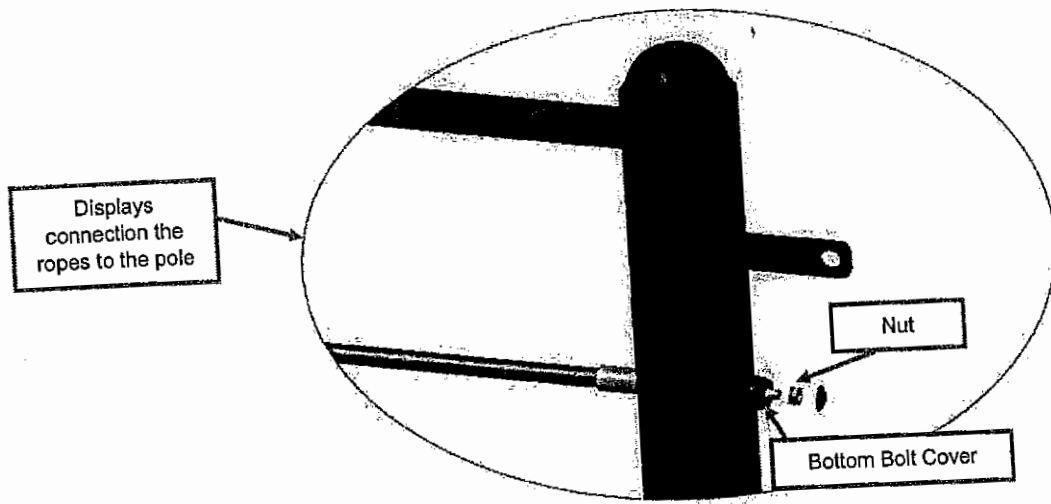

Figure 1
- STEP #2 Place Vertical Connecting Posts in the footing holes and attach the Rope Connecting Bar Brackets to the Posts with the Button Head Bolts. **There are (4) preinstalled Nuts fastened to the inside of the Posts, and there are (6) preinstalled Nuts fastened to the outside of the Posts. This orientation is extremely important.** The *inside* of the Posts support the Rope Assembly and the *outside* support the Plastic Panels. There are (2) Bar Brackets per Post (one at the top and one at the bottom). The purpose of the Bar Brackets is for the attachment of the Rope Connecting Bar Assemblies. **(See Photo 1)**
- STEP #3 Using the Button Head Bolts, attach the Panel Mounting Brackets to the preinstalled Nuts on the outside of the Posts. There are (3) of these Brackets per Post. Repeat this assembly procedure for the remaining posts. **(See Photo 2)**
- STEP #6 Attach the Net to the Vertical Upright Posts and the Rope Connecting Bars. Once again use the Bolt Caps that have the radius **(See Figures 1 & 2)**. Start all of the Rope connections prior to any tightening. The four net bolts that will be located behind the three Plastic Panels must be tightened and the bolt cap lids snapped in place before the installation of the Plastic Panels. If the bolts are not tightened prior to the installation of the Plastic Panels, it may be difficult to tighten the net and install the Bolt Caps.